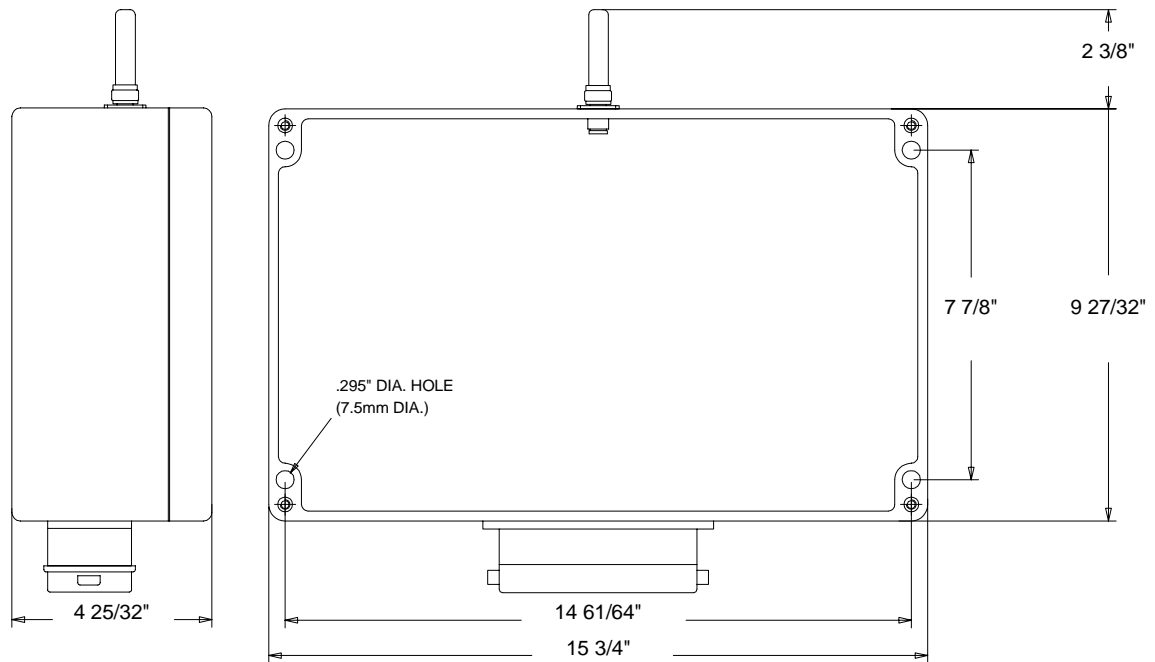

Figure 2.4: Receiver Dimensions
Refer to Figure 2.4: Receiver Dimensions for mounting the PulseStar•610 receiver.
3. Using the dimensions shown in Figure 2.4: Receiver Dimensions, drill holes into the mounting surface. The depth of the hole depends on the type of screw you are using to mount the receiver enclosure. Use an appropriately sized tap to thread the mounting holes, or you can mount the receiver by using screw nuts.